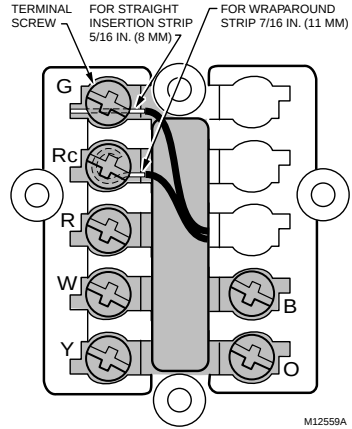

Fig. 4. Connecting wiring.
- ❑ Match the letter of your old thermostat wire with the terminal of the corresponding letter on your new thermostat. Refer to Fig. 4.